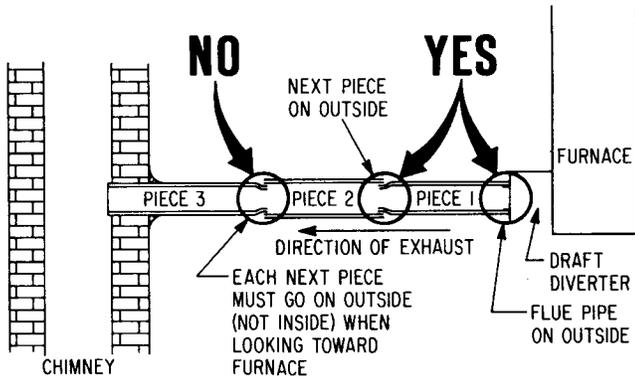

Figure 6
7. The flue pipe **MUST** be on the outside of the draft diverter collar. See Figure 6.
8. Each new piece of flue pipe that is connected when getting farther away from the furnace **MUST** connect on the outside of the previous one. See Figure 6. Remember, the exhaust must flow "into" the next pipe.